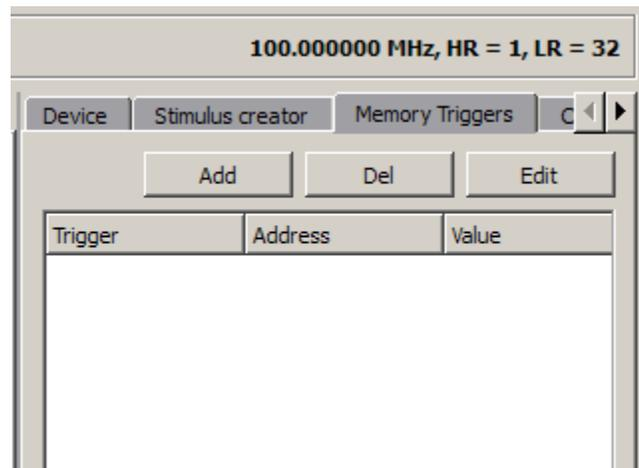

Figure 35. Memory Triggers Tab
- (a) Select the Memory Triggers tab from the top-right pane of the HET IDE window (see Figure 35).